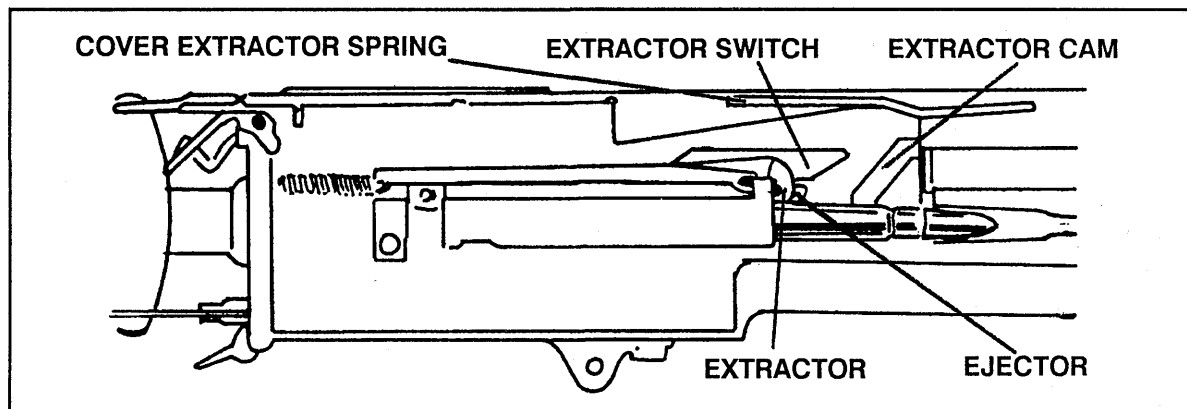

Figure 3-10. Chambering – new round aligned with the chamber.
b. **Chambering.** Chambering is placing the cartridge into the chamber of the weapon. During this cycle, the bolt moves forward, carrying the cartridge in the T-slot in a direct route to the chamber of the weapon. At the same time, the extractor rides up the extractor cam and when the bolt is fully forward, the extractor grasps the next linked cartridge (Figure 3-10).